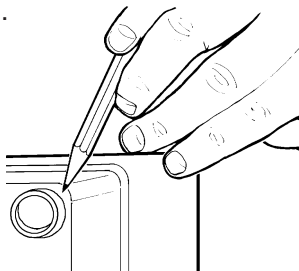

Figure 1
- 1.5. The appliance must be fitted **ONTO** the finished wall surface i.e. on top of the tiles. **DO NOT** block the air ventilation gaps around the sides of the unit, either by tiling up to the sides of the unit or by using a sealant around the case (Small pillars moulded on to the back of the case allow air circulation). This appliance is designed to be ventilated. Failure to do this may cause product failure (Refer to Figure 1).